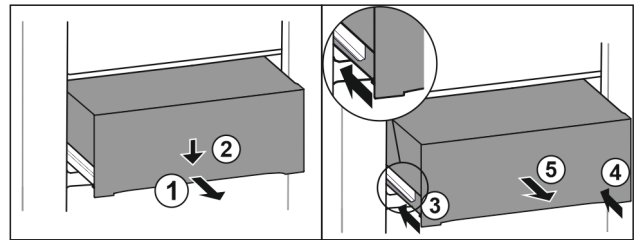

Fig. 97
- Pull out drawer half-way. *Fig. 97 (1)*
- Push the drawer down at the front. *Fig. 97 (2)*
- Push the left rail in by about 2 cm. *Fig. 97 (3)*
- Push the right rail in by about 2 cm. *Fig. 97 (4)*
- Remove drawer to the front. *Fig. 97 (5)*